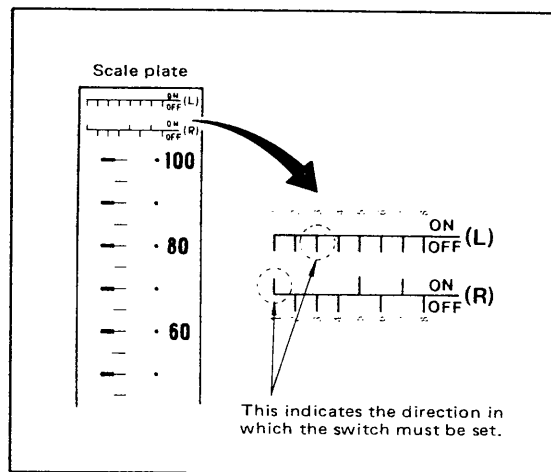

Figure 6-2-7. DIP Switch Setting Direction Mark Printed on the Scale Plate.
- (3) The DIP switch setting direction mark is printed on the scale plate. (See Figure 6-2-7.)
- (4) Set the DIP switches as indicated by the direction mark of the scale plate; the digital display coincides with the scale marks of the scale plate.